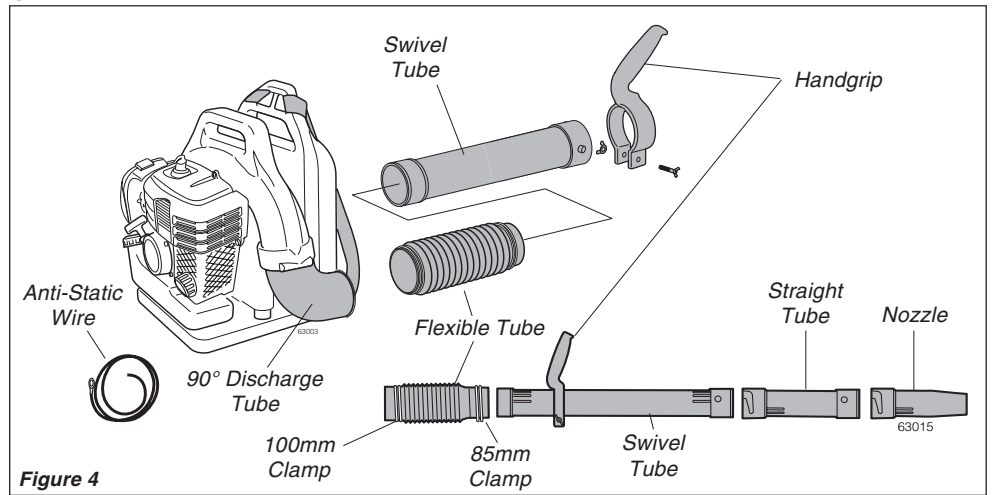

Figure 4
1. Place the blower upright on the ground or a sturdy work surface and note parts orientation as shown in figure 4.